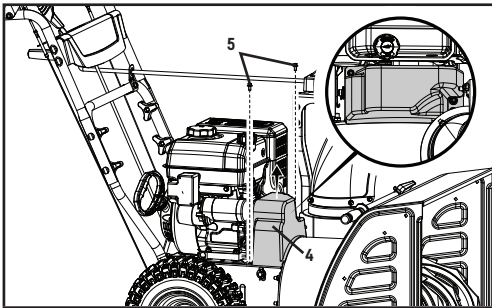

Figure 27
1. Remove the plastic belt cover (4) on the front of the engine by removing two M6 × 16 bolts (5) (Fig. 27).